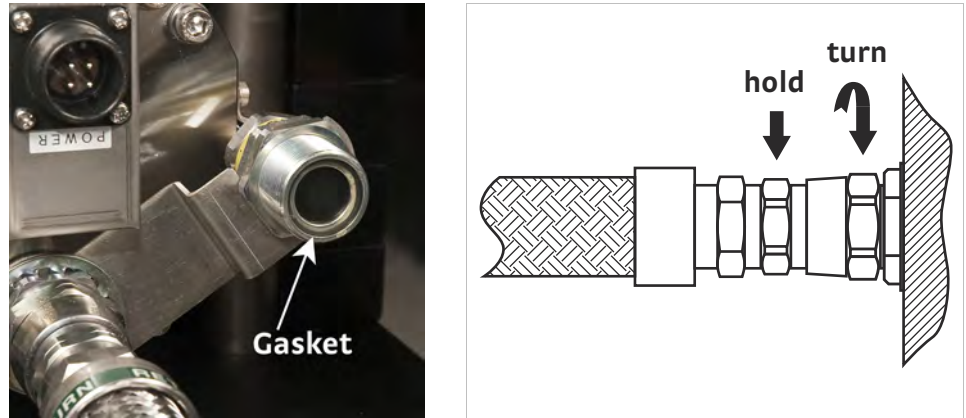

FIGURE 3-13 Left: Gasket on the cold head supply line; Right: Placement of wrenches on self-sealing nut
- Check that the flat rubber gaskets are clean and in place on each supply/return connection on the compressor and cold head (FIGURE 3-13).
- b. Using the two wrenches provided in the CCR tool set, tighten the self-sealing nut. Hold the nut with one wrench and turn with the other as shown in FIGURE 3-13. Do not over tighten; the maximum allowable torque is 50 Nm.